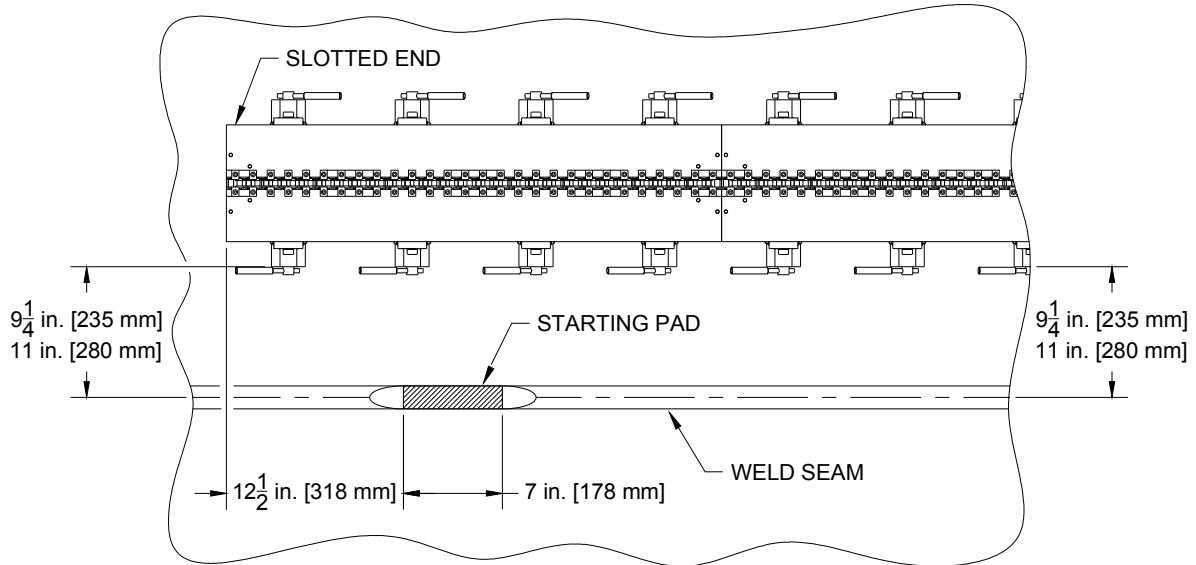

Figure 4: Starting Pad Location
3. The operator places the track section into position as shown in Figure 4. The Lateral Adjustment allows the operator to place the track within the dimensions shown, however the track must be parallel to the weld seam. In other words the distance from the face of any Track Magnet to the centerline of the weld seam must be the same.
4. The operator activates each of the Track Magnets by rotating the Magnet Handle until it locks, thereby magnetically securing the track section to the panel. Each Track Magnet must be inspected to ensure they are seated against the panel, and that the Handle Lock is secure. See Figure 4.
9. A flat Starting Pad must be prepared for the Weld Shaver before the facing process can begin. The operator must manually remove the weld bead approximately flush with the panel surface to provide a flat 7 in. (180mm) long Starting Pad. The location of the Starting Pad with respect to the Slotted End is shown in Figure 4.